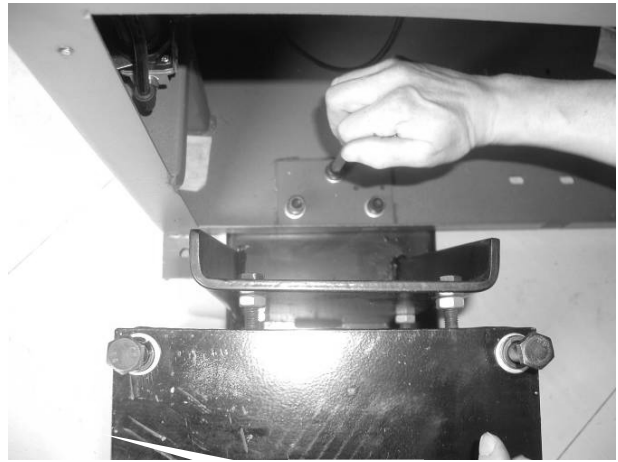

FIG 30
6.1.3 Push the platform of the base plate of the base assembly into the body through base plate on the left-back side of the body. Align the thread hole to the reinforce hole and use the bolt and washer to fix. (fig30) .